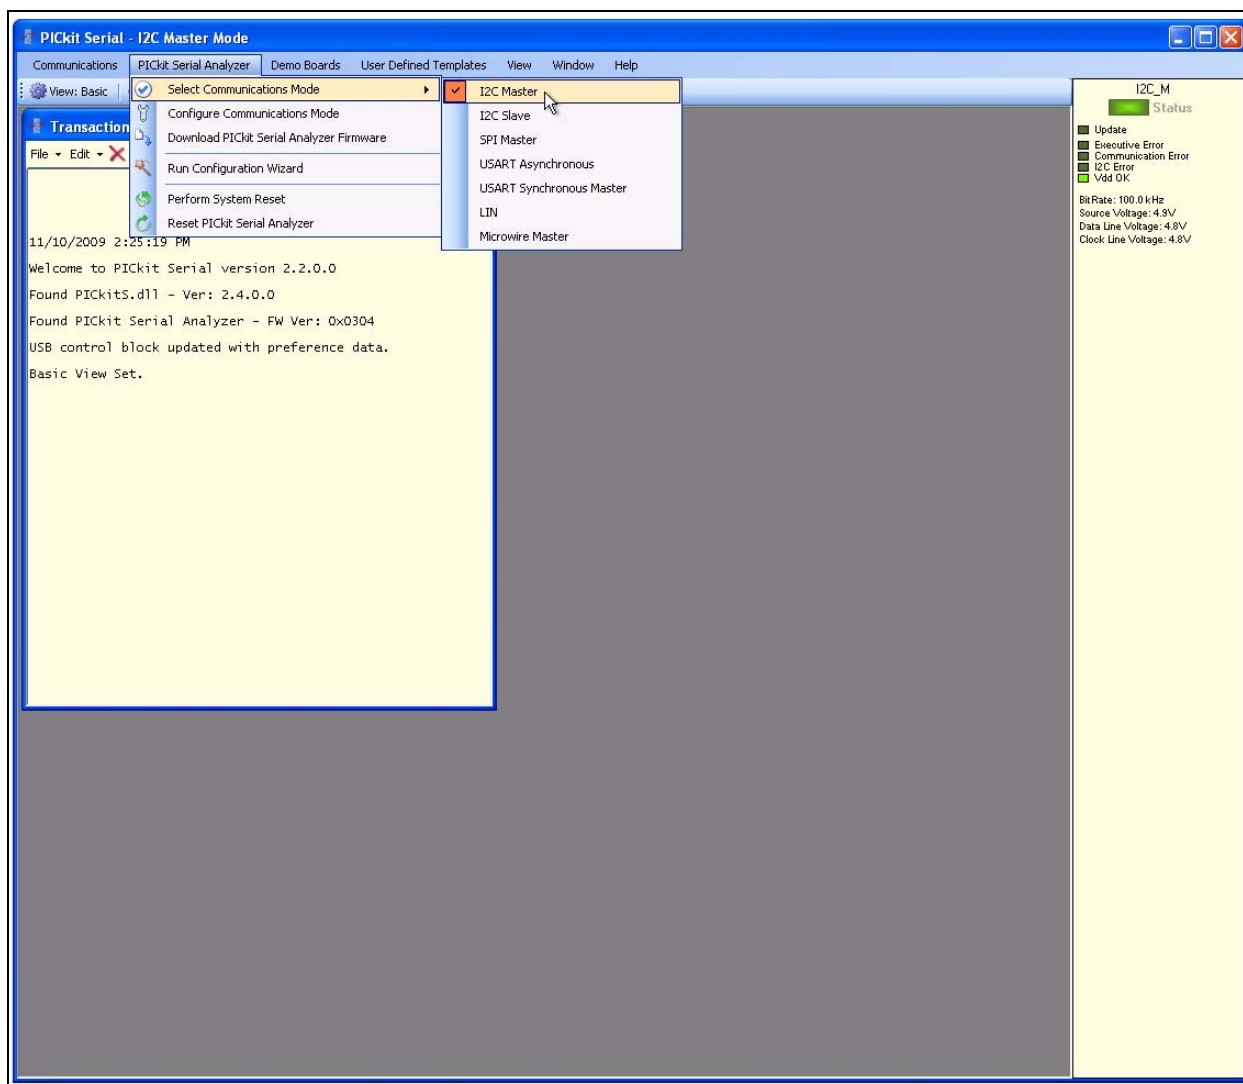

FIGURE 2-4: PICKkit Serial Selecting Communications Mode.
We need to select the PICKkit Serial Analyzer GUI to be in I²C Master mode. Figure 2-4 shows how to select the proper mode. Select *PICKkit Serial Analyzer* -> *Select Communications Mode* -> *I2C Master* menu item (make sure the I2C Master item is checked).
4. Ensure the GUI is in Master I²C communication mode (see Figure 2-4).